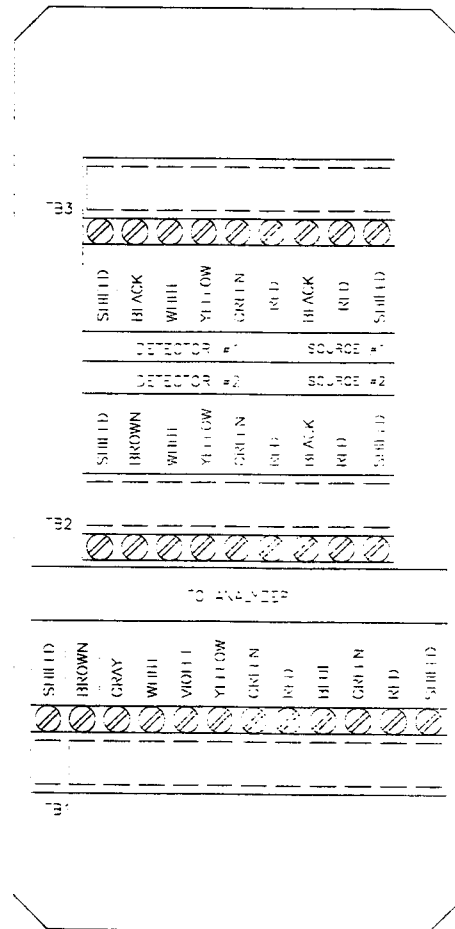

Figure 4-3 Turbidity Sensor Terminal Block Designations
3. Refer to Figure 4-3 and connect its wires, by color, to the sensor terminal board.